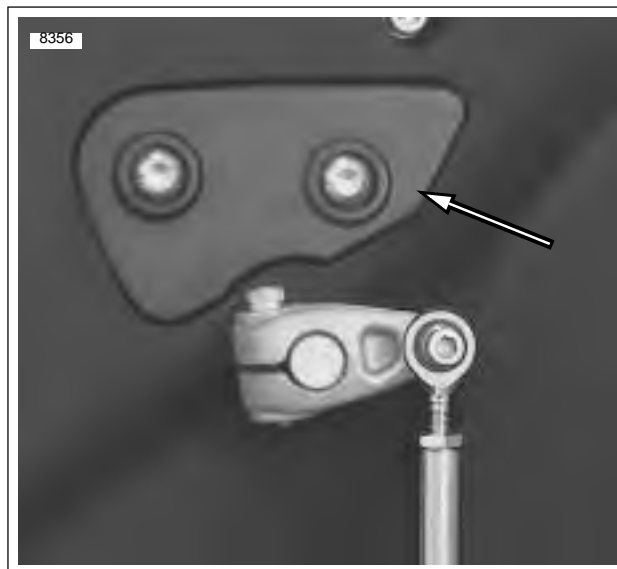

Figure 1-26. Primary Chain Inspection Cover
See Figure 1-26. Measure primary chain tension through the inspection cover opening. Adjust primary chains not meeting vertical free play specifications.
1. See Figure 1-26. Remove two fasteners with captive washers and primary chain inspection cover with gasket from primary cover.
4. See Figure 1-26. Install primary chain inspection cover and **new** gasket to primary cover using two fasteners with captive washers. Tighten fasteners to 40-60 in-lbs (5-7 Nm).